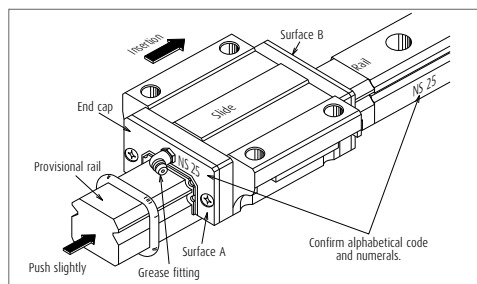

Fig. 23 Inserting slide into the rail
- › Slides of random-matching type are assembled on a provisional rail (an inserting tool) when it is delivered (Fig. 23).
- (1) Wipe off the rust preventive oil from the rail and slide.
- (2) Please match a groove mark for the datum surface of slide and rail to set a desired assembling state W_2 or W_3 .
- (3) Align the provisional rail to the rail in the bottom and side surfaces. Press the provisional rail lightly against the rail, and move the slide over the rail (Fig. 23).